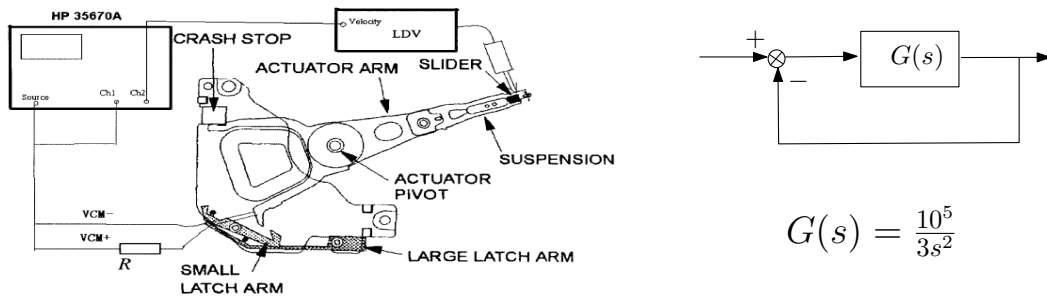

Figure 7: Control of hard disk drive arm
3. The frequency response of an unknown plant is illustrated in figure 7 in the form of a Bode plot. Provide a mathematical description, denoted by  $G(s)$ , of the plant. Is the plant a minimum-phase system? Consider the unity feedback system with plant described  $G(s)$ . Sketch the Nyquist plot and comment on the closed loop stability using the Nyquist criterion. Calculate the crossover frequencies and the corresponding stability margins using the Nyquist plot. Calculate also the crossover frequencies and the corresponding stability margins from Bode plot, and compare the results. Calculate the appropriate steady state error constant.
12. The transfer function from applied force to arm displacement for the arm of a hard disk drive has been identified as  $G(s)$ , see figure 7. The position of the arm will be controlled using the unity feedback gain system. Design a lead compensator to achieve closed loop stability with a transient response of 16% overshoot and a settling time of 2 milli seconds for a step input. Plot unit step response curves of the compensated system.